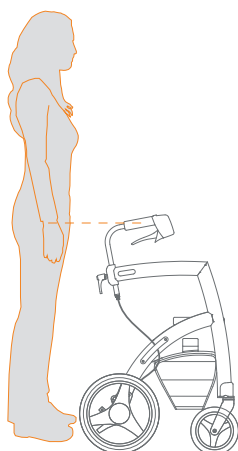

Figure 12: Determine the correct height.
Setting the correct height (**Figure 12**) is crucial for an optimal use of the Rollz Motion. The height can be adjusted in between the minimum and maximum positions. This way the Rollz Motion can easily be adapted to individual needs.
- c. To determine the correct height, stand between the Rollz Motion handles with your arms hanging near the body. The handles should be at the height of your wrists (**Figure 12**).